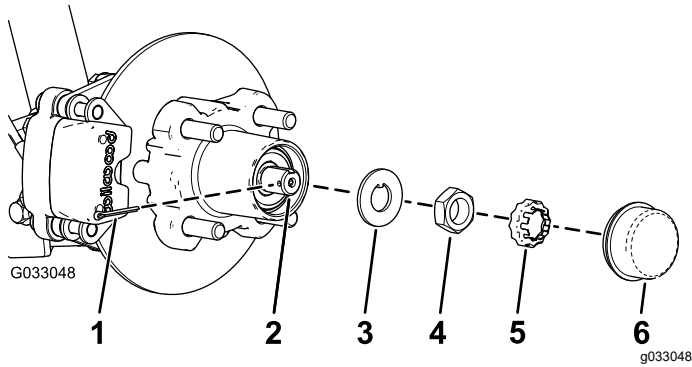
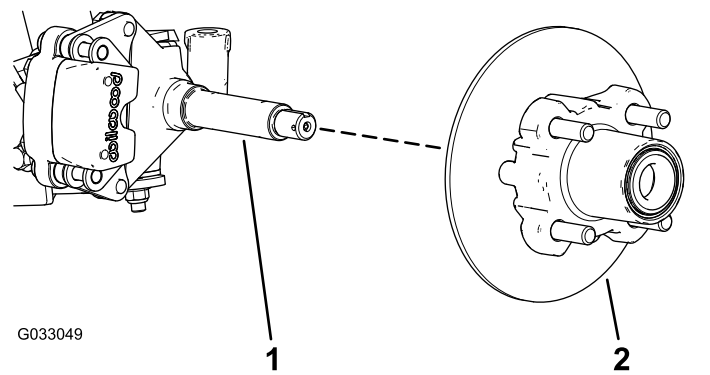

Figure 25
Figure 26
4. Remove the dust cap from the hub (Figure 25).
5. Remove the cotter pin and nut retainer from the spindle and spindle nut (Figure 25).
6. Remove the spindle nut from the spindle, and separate the hub and rotor assembly from the spindle (Figure 25 and Figure 26).